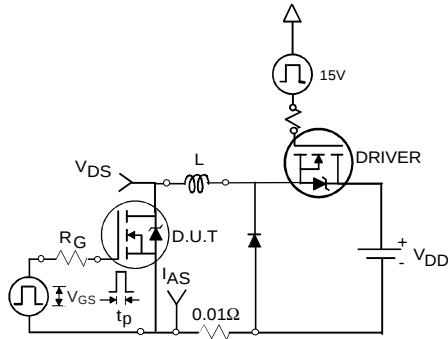

Fig 12a. Unclamped Inductive Test Circuit
③ Pulse width $\leq 1.0ms$; duty cycle $\leq 2\%$.
- ④ $C_{oss\text{ eff.}}$ is a fixed capacitance that gives the same charging time as C_{oss} while V_{DS} is rising from 0 to 80% V_{DSS} .
⑤ Limited by T_{Jmax} , see Fig.12a, 12b, 15, 16 for typical repetitive avalanche performance.
⑥ This value determined from sample failure population. 100% tested to this value in production.
3. Equation below based on circuit and waveforms shown in Figures 12a, 12b.